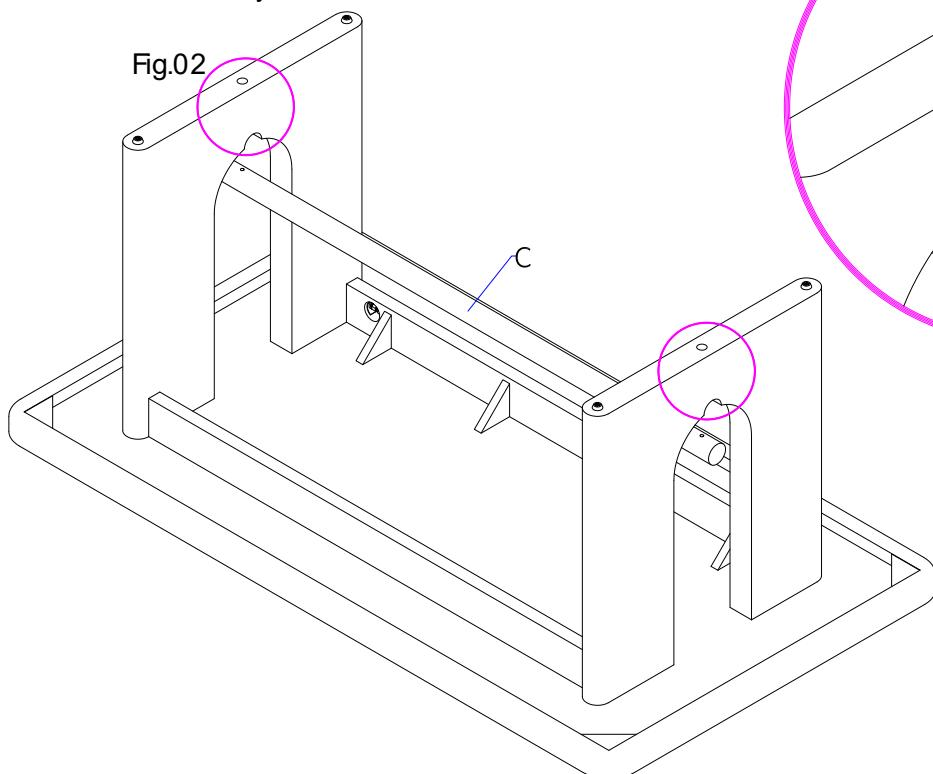

FIGURE 02
3. Attach the Stretcher (C) into the legs by using Allen bolts (6) together with Lock washer (3) and Flat washer (7). DO NOT OVERTIGHTEN. See **FIGURE 02**.